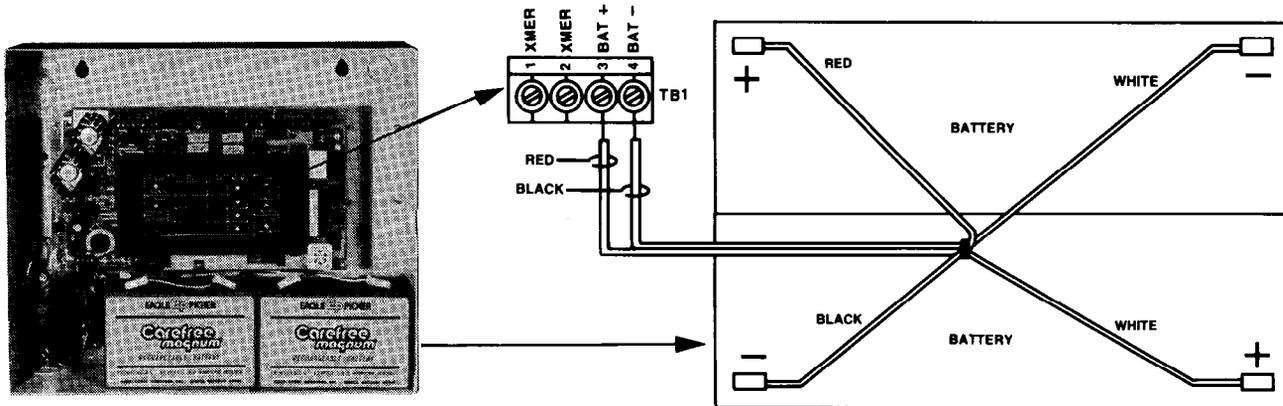

FIGURE 25
- At battery harness, connect one end of the white jumper to positive terminal of one battery and other end to negative terminal of other battery (Fig. 25).